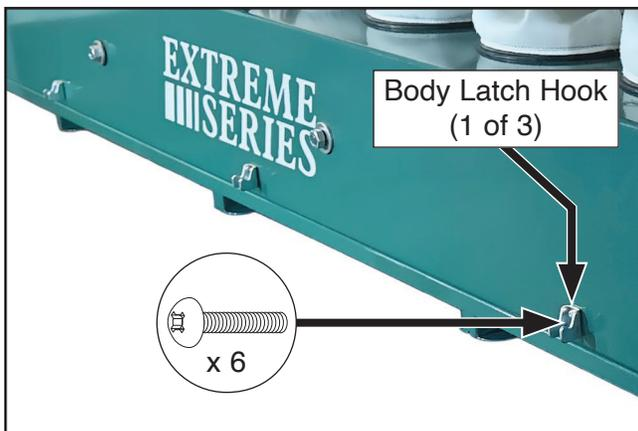

Figure 51. Body latch hooks attached to machine body.
42. Attach (3) body latch hooks to front of machine body with (6) #10-24 x 3/8" Phillips head screws (see **Figure 51**).